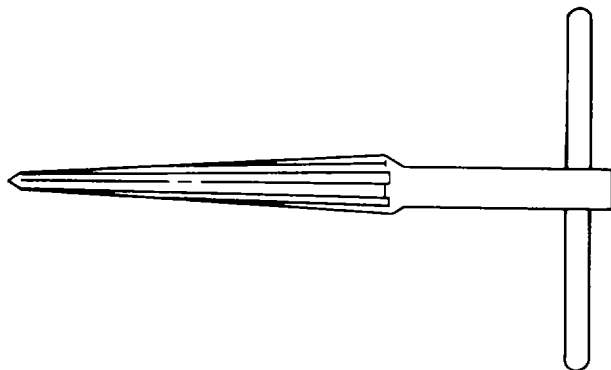

Figure 4-95. Repairman's Hand Reamer
(4) *Repairman's T-handle (hand) reamer GGGR-180, type XIII.* These reamers have straight flutes and a solid handle. The cutting section tapers 1-1/4 inches per foot, as shown in figure 4-95.